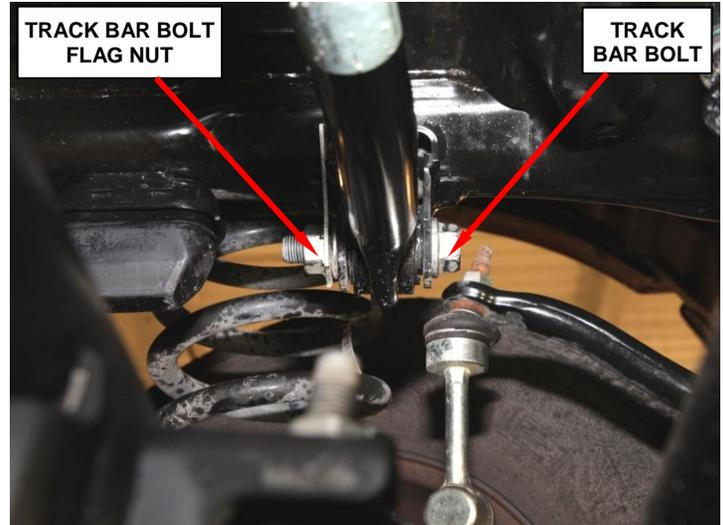

Figure 33 – Original Track Bar Bolt & Flag Nut
4. Disconnect the front track bar from the track bar bracket on the left frame rail (Figure 33).